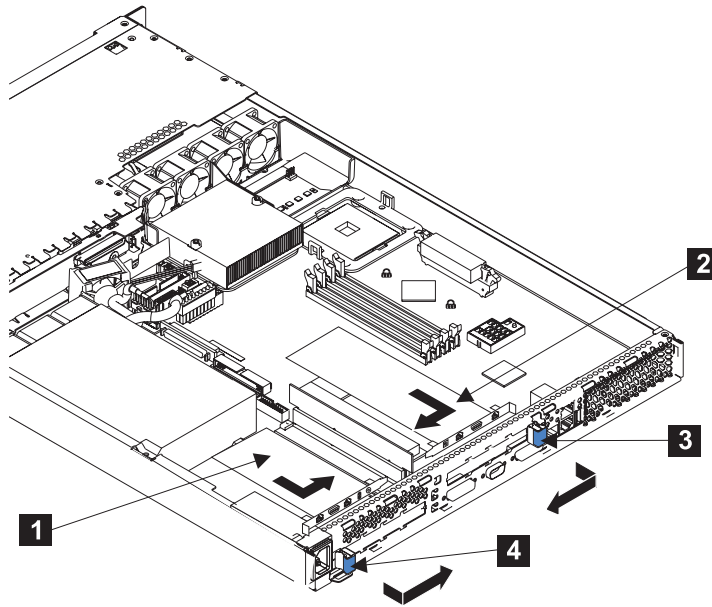

Figure 162. The SAN Volume Controller 2145-4F2 with its adapters installed
3. Pivot the expansion-slot clip (**3** or **4** in Figure 162 on page 436) toward the adapter and press it into place.